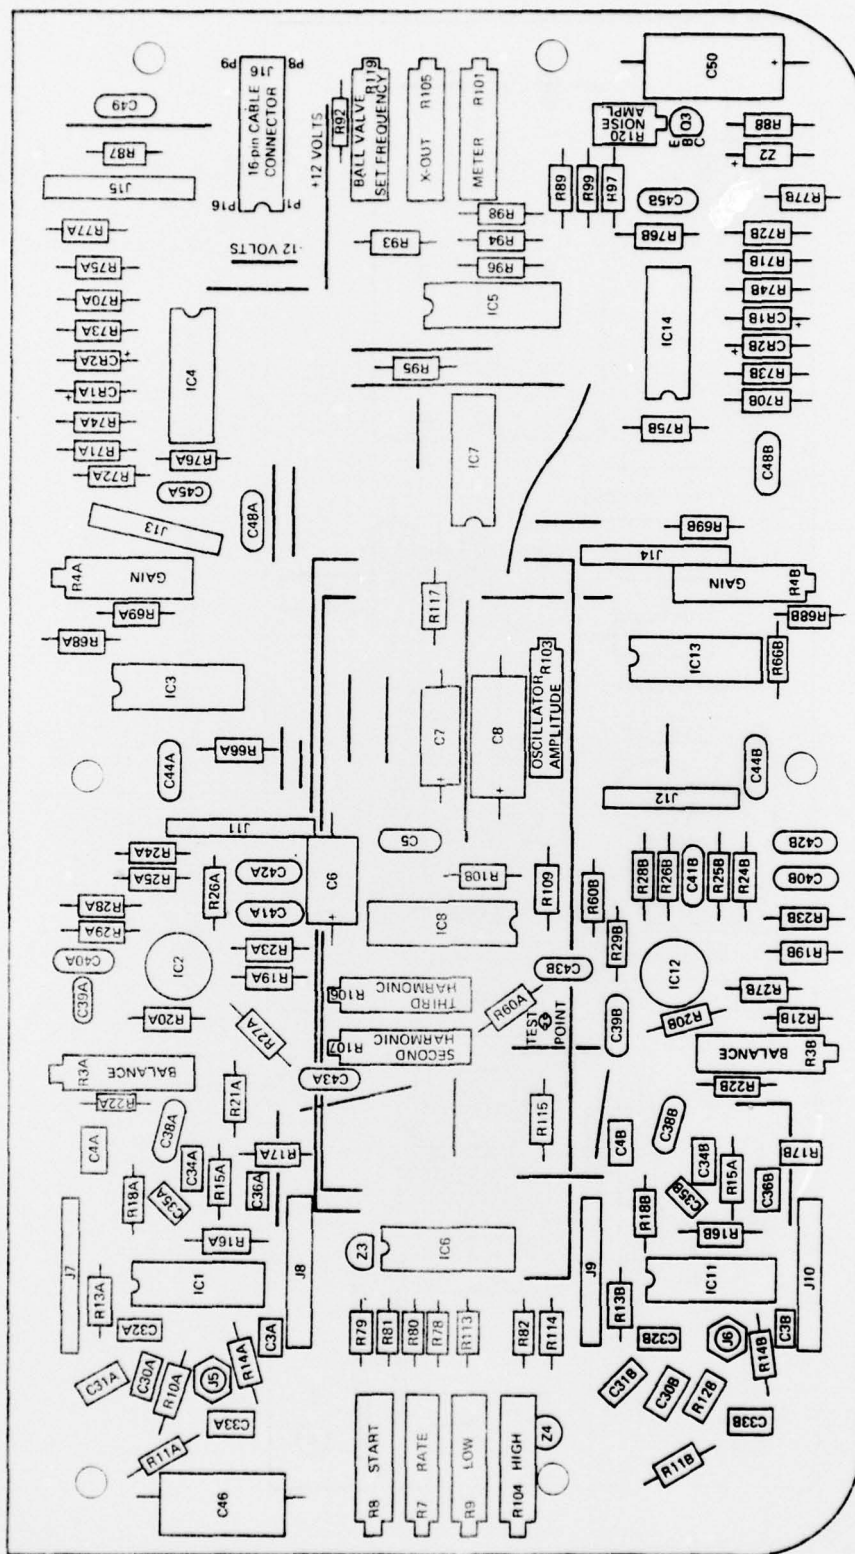

Figure A-4. Acoustic Water Leak Analyzer Main Board
Disconnect the line cord and remove the electronics package carefully, keeping the battery leads connected. With the POWER switch turned to the OFF position, connect an oscilloscope probe to capacitor C49 or resistor R87 on the end nearest the edge of the main circuit board (see Figure A-4 of Appendix A). Turn the POWER switch and the TEST switch to the ON position. A 100-mV rms (10 Hz to 1 MHz) random noise signal should appear on the oscilloscope. If no signal appears, the noise source electronics are faulty. Try replacing zener diode Z2 to remedy the situation and then adjust the 1000-ohm trim potentiometer R120 to yield a 100-mV rms random noise output. If random noise does exist, but cannot be adjusted as high as 100 mV, replace the zener diode again as necessary until the 100-mV level is attainable.
8.4 MAIN CIRCUIT BOARD (see Figure A-4 of Appendix A)